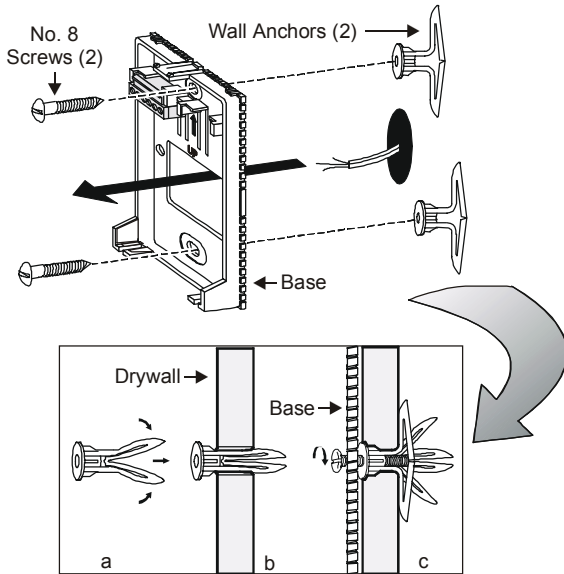

Figure 6: Installing a Surface-Mounted TM-9100
1. Pull the wiring through the wall. (See Figure 6.)